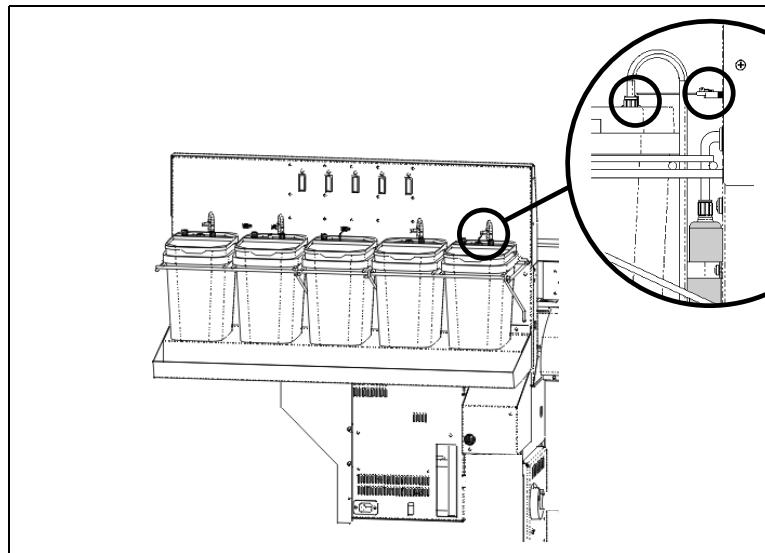

Fig. 1-7. Installing the reservoirs
- ◆ Connect the hook-shaped tube to the reservoir's draw tube, by pressing down until it seats with a click, and turning the screw-on connector  $3/4$  to 1 turn. See Fig. 1-7 below for location.
- ◆ Connect the float sensor cable from the reservoir to the data port on printer. See Fig. 1-7 below for location.